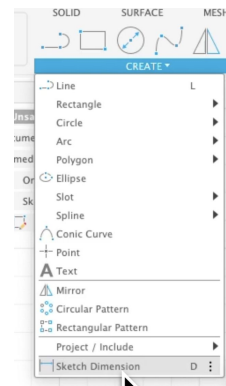

Figure 1.1
- Click on a line, circle, or angle to apply a dimension. **Note:** *Dimensions are automatically applied based on the type of object, circle, half-circle, or line, and will follow the current dimensioning rule you've set. (see Figure 1.1)*